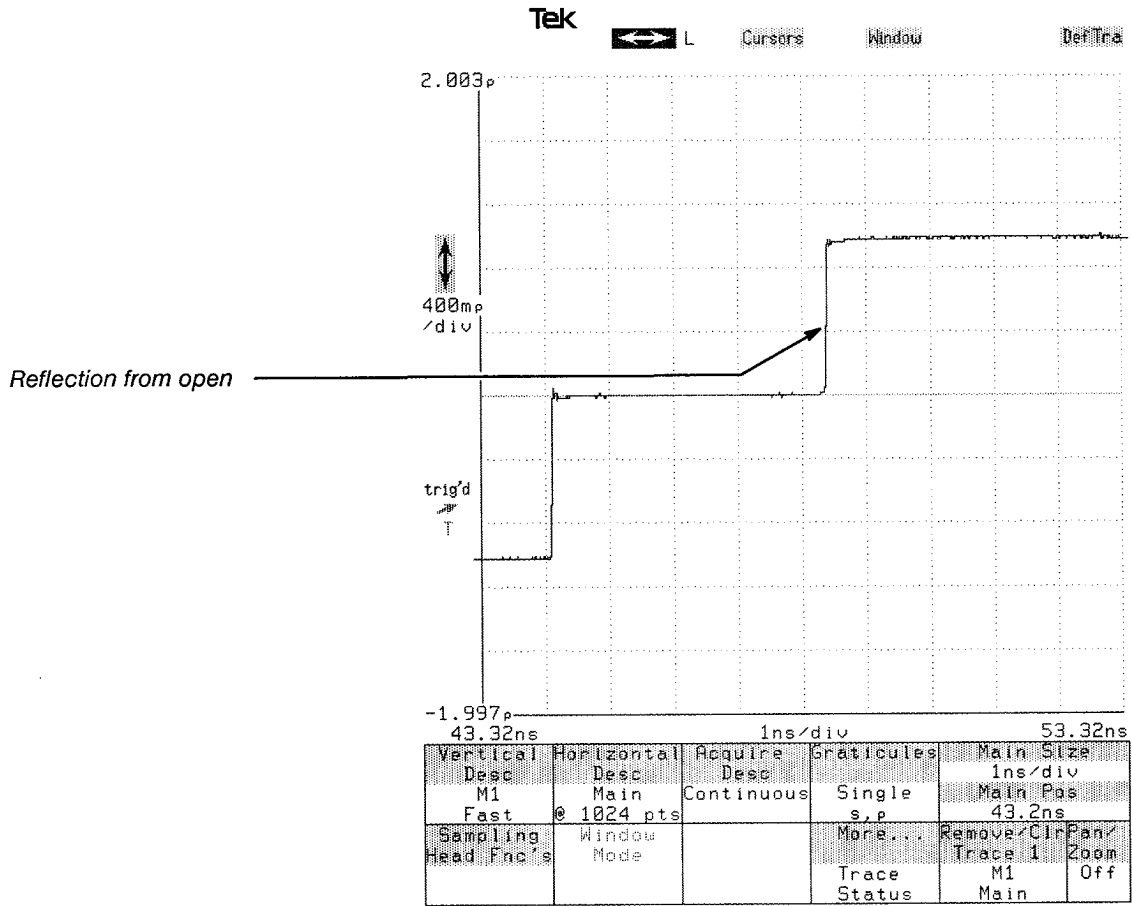

Figure 4 – Foot Switch in Normal Position (not pressed)
| | Figure 4 | Foot Switch in Normal Position (not pressed) | 6 |
Step 3: With the foot switch in its normal position (not pressed), locate the reflection from the open circuit end of the cable on the displayed TDR waveform (see Fig. 4).